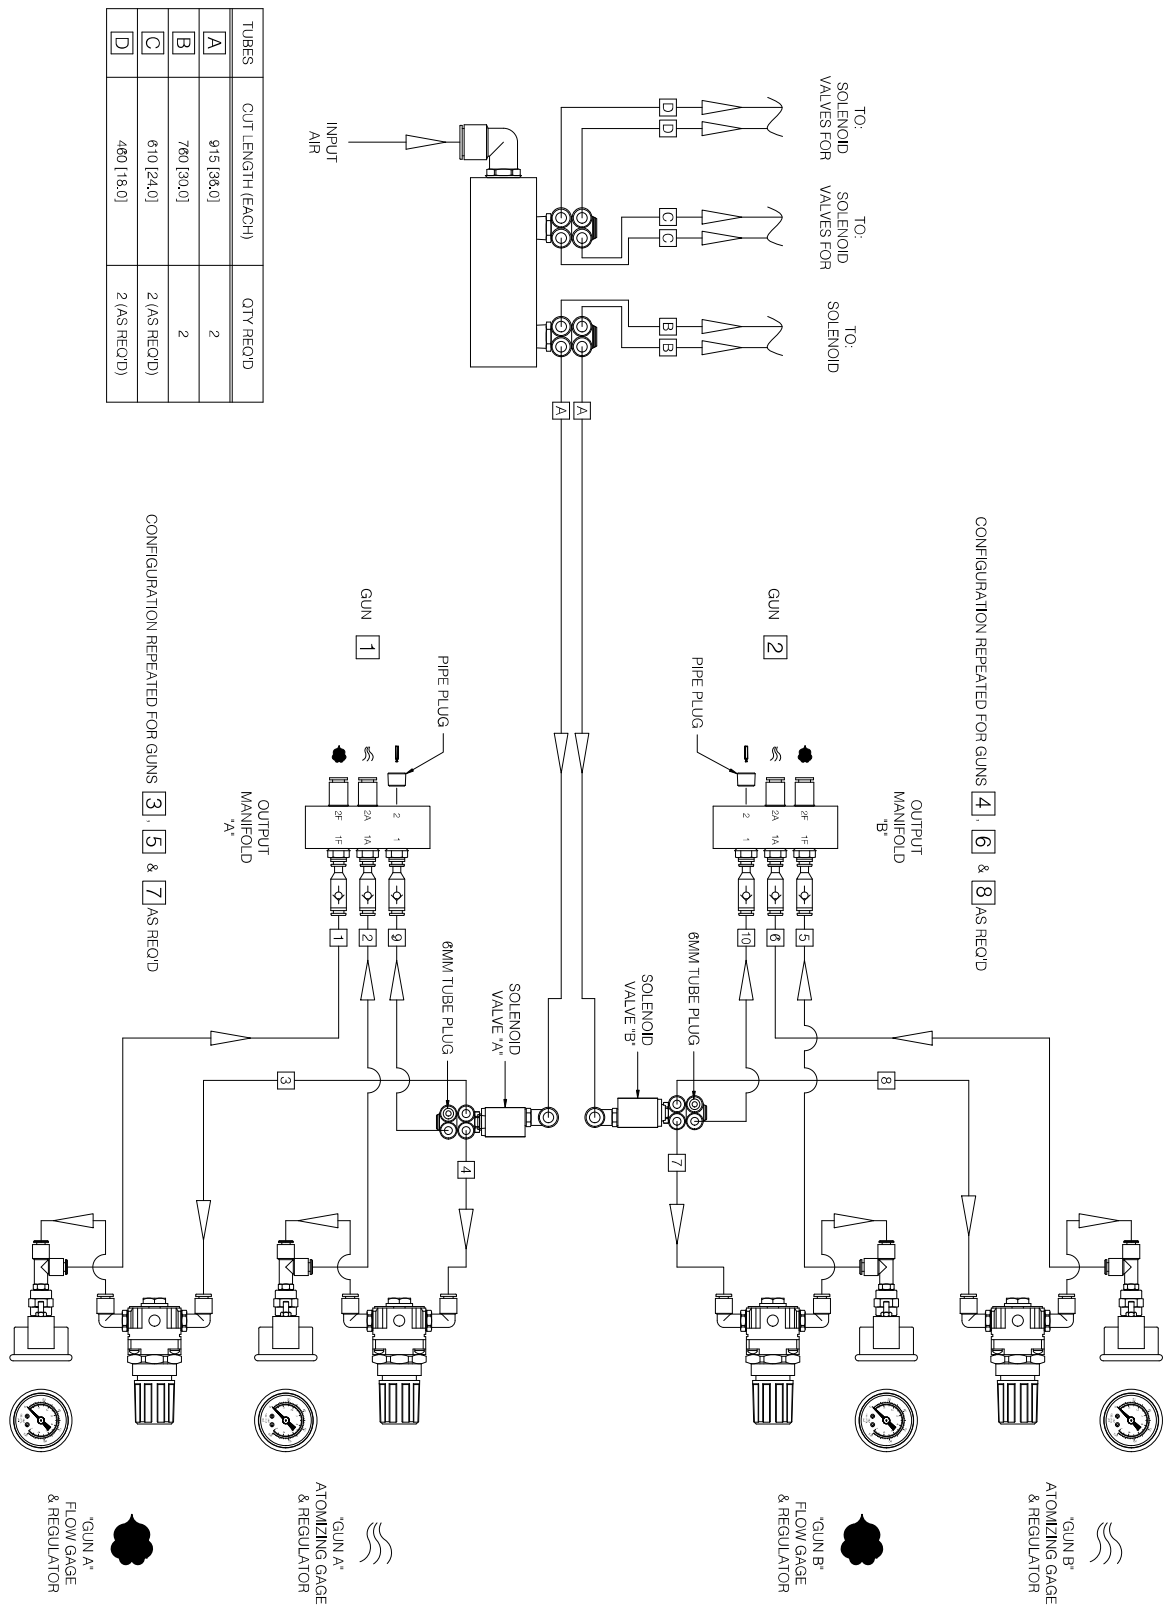

Figure 6-9 Pneumatic Diagram
NOTE: See Figure 6-9 for tube labeling and routing.
5. Connect all tubing as shown in Figure 6-9.